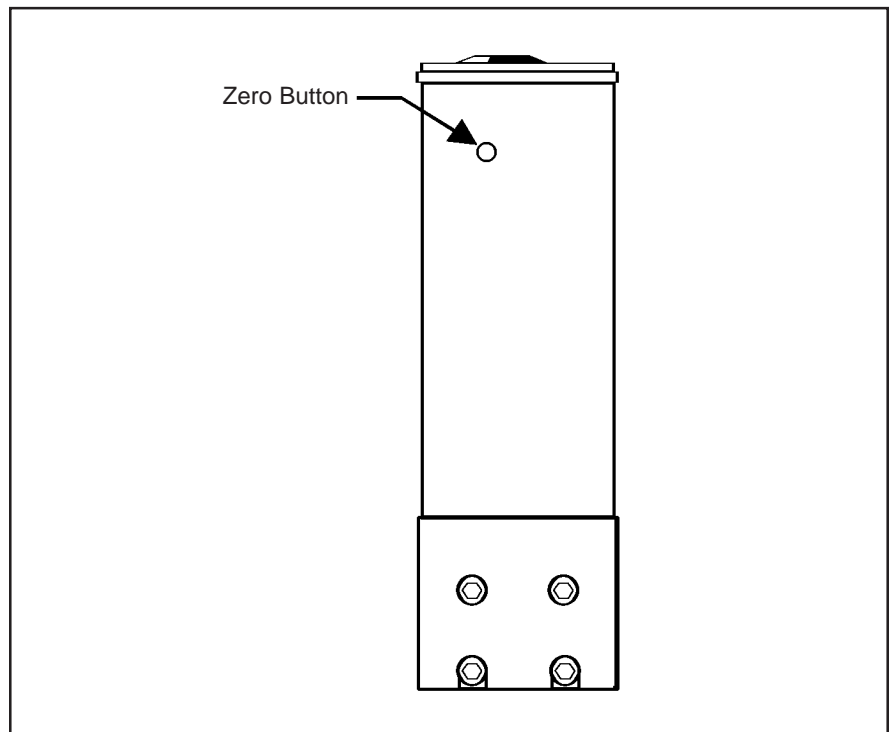

Figure 3-2 Externally Accessible Adjustment for all Meters/Controllers.
**Note: Before zeroing the instrument, zero pressure differential MUST be established across the device. If there is pressure across the instrument during the zero process, any detected flow through the sensor will be misinterpreted as the zero flow reading. This will result in calibration inaccuracy during normal operation. Once zero differential pressure is established and verified, press the recessed, momentary push-button (self-zero button) located on the side of the device (See Figure 3-2) to start the self-zero function. The zeroing process requires approximately 10 mseconds.**